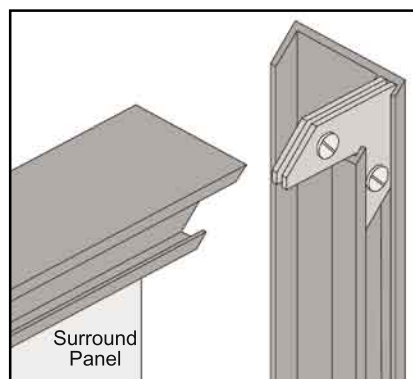
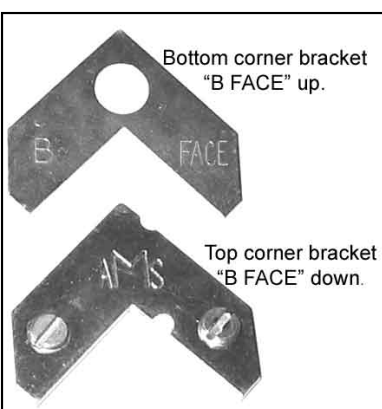

Figure 52: Corner brackets for trim.
Figure 53: Two pieces of corner bracket.
2. Attach one side trim to the top trim, using a corner bracket (see Figure 52) to secure pieces together. There are two (2) main pieces to each corner bracket (see Figure 53). When installing the corner pieces into the trim, the "B FACE" sides must face each other and the screw heads are to face out. With the bracket in place and the top and a side trim snug together, use a flat head screwdriver to turn the two (2) screws in the bracket to tighten it into the trim.
3. Slide the two (2) attached trim pieces onto the surround panel.